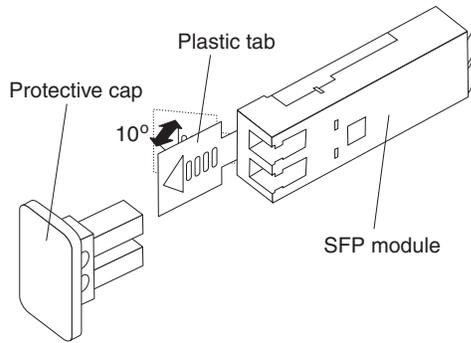

Figure 85. Unlocking the SFP module latch - plastic variety
- For SFP modules that contain plastic tabs, unlock the SFP module latch by pulling the plastic tab outward 10°, as shown in Figure 85 on page 118.